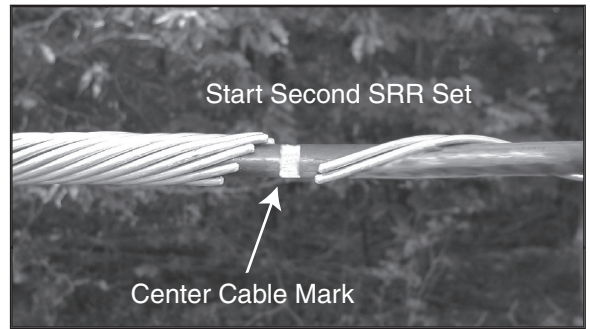

FIGURE 8: RIGHT SRR SET SHOWN STARTING ABOUT 1/2" (13 MM) TO THE RIGHT OF THE CENTER MARK
3.07 The first one or two rods from the Second SRR set are started 1/2" (13 mm) to the right of the cable center mark and wrapped on (from right to left in Figure 8).